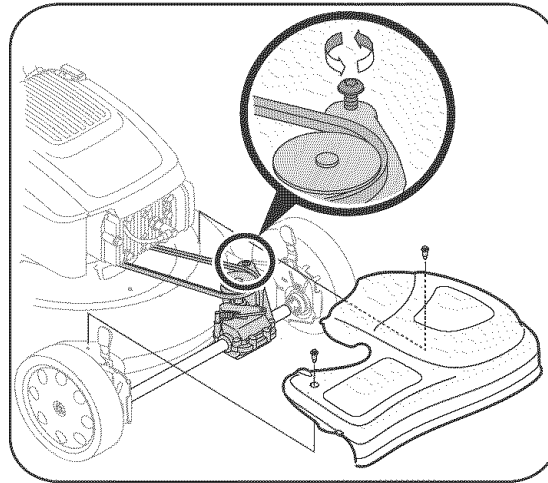

Figure 6
1. Remove two shoulder screws securing front drive cover to mower deck. See Figure 6. Press inward on sides of front drive cover and release tabs that secure it to the height adjuster brackets. Remove drive cover from mower.
2. Loosen screw holding belt tension spring to transmission. See Figure 6 inset. Do not remove screw completely. As you loosen it, tension on the belt will be released.